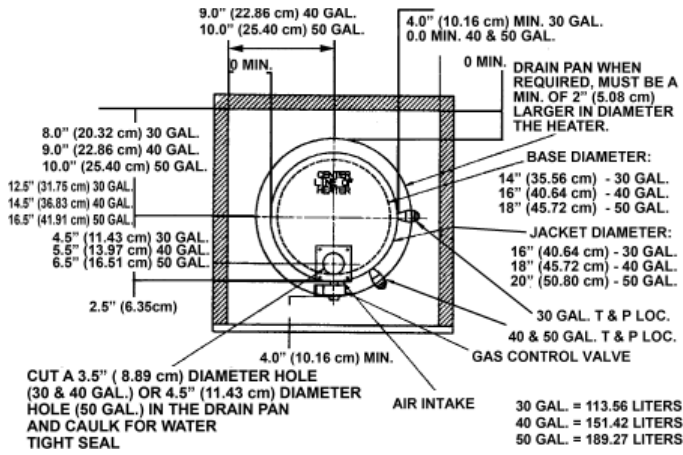

FIGURE 7.
2. If you have found that the water heater is being installed in an area which, if the water heater was to leak, would cause damage and have elected to install a metal drain pan refer to Figures 7, 8 and 9 on page 10. If you are not installing a drain pan go directly to the next step.